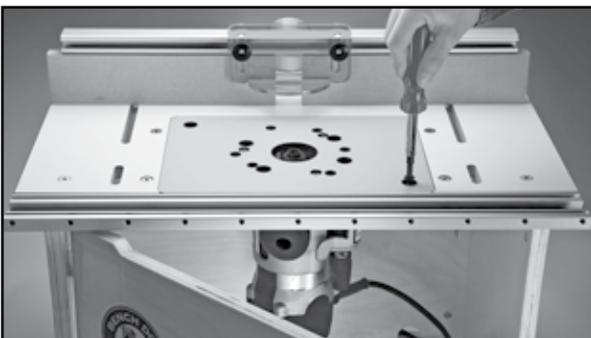

Fig. 18
20. Install router and plate into the routertop as shown in **Fig. 18**. Re-adjust the insert plate flush if necessary (see step 13). Install the two 1/4-20 x 1" flat head phillips screws (17) into the two corners of the insert plate. These screws prevent side-to-side movement and keep the insert plate firmly seated, preventing excessive vibration. Do not overtighten as this could damage the insert plate.